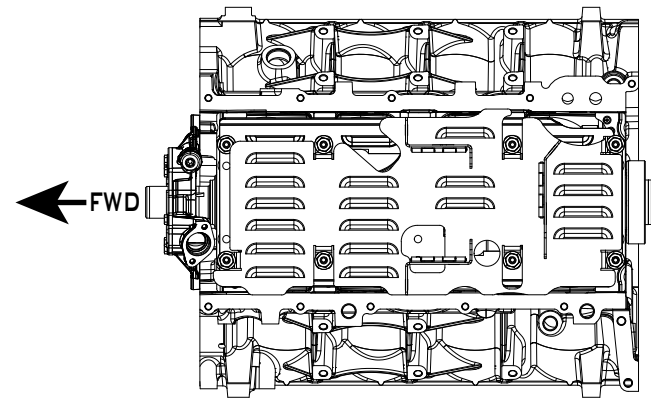

Figure 2 - Secure the baffle over the crank scraper and torque to 18 lb-ft
8. Secure the Improved Racing oil pan baffle over the crank scraper using the windage tray nuts as shown in Figure 2 and torque to **18 lb-ft**.